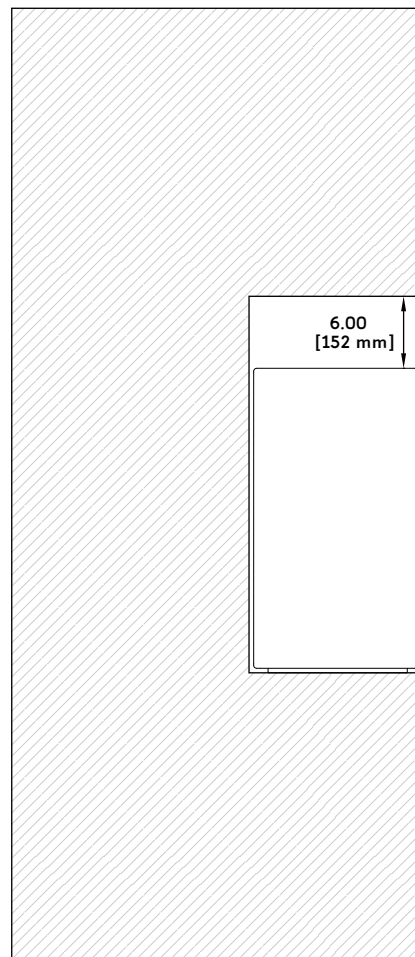

Figure 2: Acheron Designer Mounted in Soffit, Flush Against Back of Soffit with 6" of Ventilation Above Loudspeaker
- When installing the Acheron Designer in a soffit with the loudspeaker flush against the back of the soffit (see Figure 2), allow at least 6 inches above the loudspeaker for ventilation.